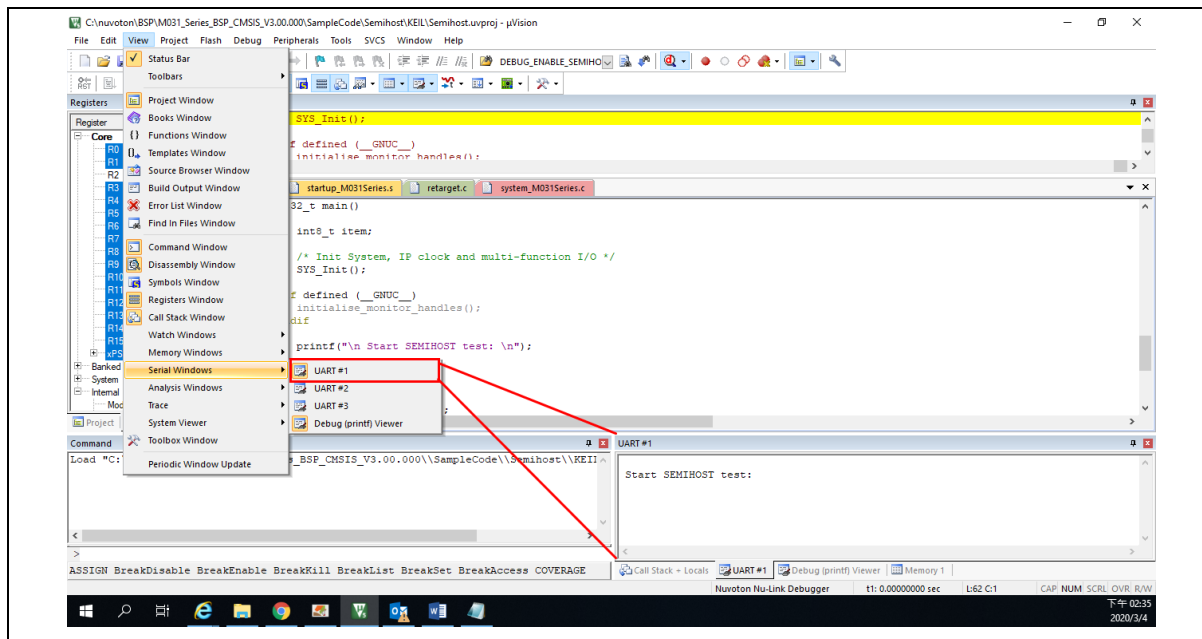

Figure 4.1-4 Semihost Options in Keil MDK Debug Mode
When using the Semihost function, the message of the NuMicro® Family microcontroller can be output through UART to the debug window by the Nu-Link2-Pro. That is, the message is output without the GPIO. Figure 4.1-4 shows the debug messages in the “UART #1” form, which are the messages output by the Nu-Link2-Pro.
Step 3: In Debug mode, invoke **View** → **Serial Windows** → **UART #1**, as shown in Figure 4.1-4.